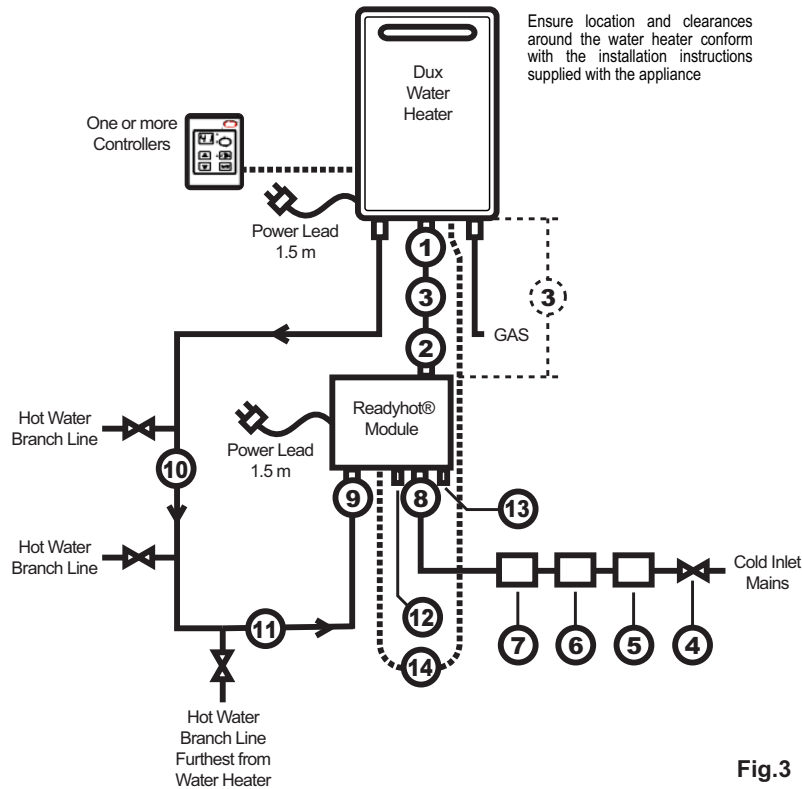

Fig.3
## LOCATION (Fig. 3)
#### LEGEND TO FIG. 3
Positions and sizes of the connection points to the water heater and pipework are shown in Fig.3 and the Dimensional drawings.
### VALVES (Fig. 3)
### PIPEWORK (Fig. 3)
### MOUNTING THE READYHOT MODULE (Fig. 3)
2. Mount the Readyhot module so the top edge of the enclosure is approximately 300 mm below the Dux Endurance water heater with the water outlet connection of the Readyhot module in line with the water inlet connection of the Dux Endurance water heater as shown in (Fig. 3).
6. Open the Readyhot module Pump and Cold Water inlet bleed valves items (12) & (13) of Fig. 3 (actual position of 'bleed valves' is shown on dimensional drawing) until all air pockets are released and a steady stream of water is discharged.